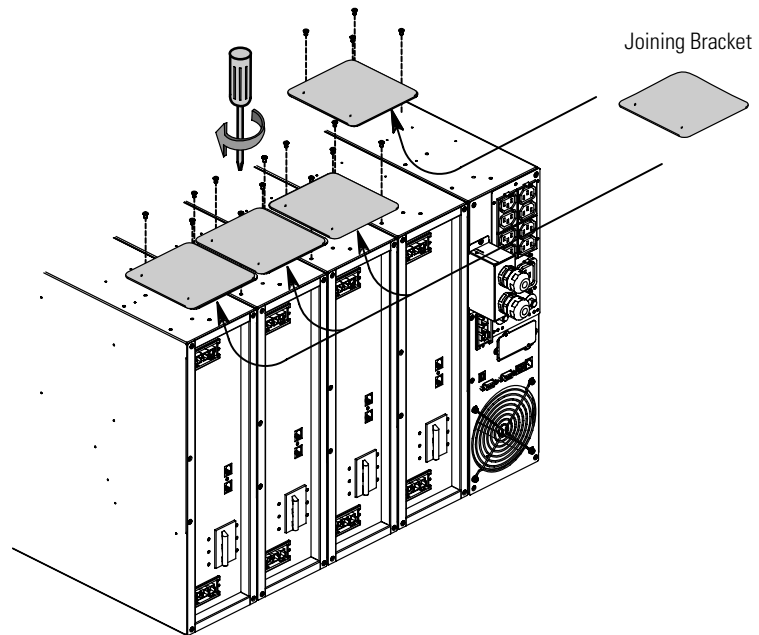

Figure 16. Installing the Joining Brackets
9. Align each joining bracket with the adjacent cabinet screw holes and secure with the supplied screws (see Figure 16).